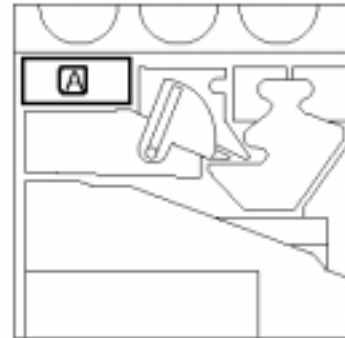

Figure 15: Locating the old Dry Ink Waste Container
- 3 Locate the Waste Container (area A in Figure 15) in the upper left of the printer/copier.